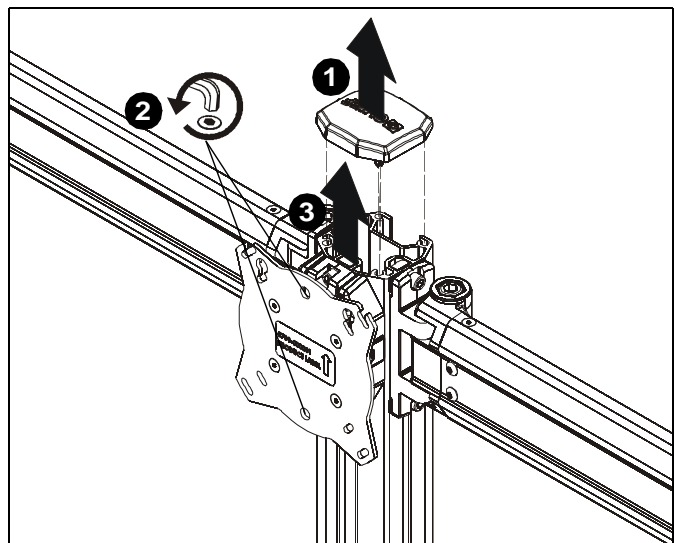

Figure 18
- Remove column cap (D) from array column. (See Figure 18)
- Loosen height adjustment screws for center faceplate assembly. (See Figure 18)
- Slide faceplate assembly up through column channel until it is removed from column. (See Figure 18)